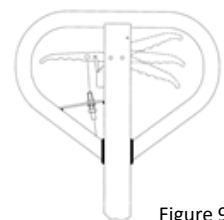

Figure 9
You can adjust the lever as follows, if necessary (Fig. 9):
- If the forks do not lower when the control lever is in the **Lower** position, turn the adjustment nut clockwise until lifting the control lever causes the forks to be lowered. Then check the **Neutral** position according to Fig. 9 and make sure that the adjustment screw is in the correct position.